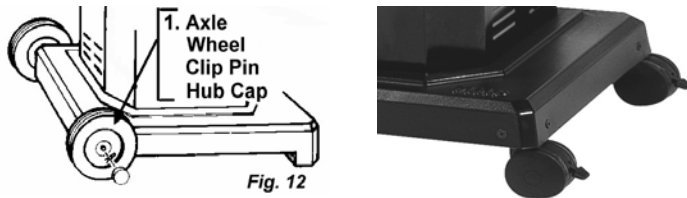

Fig. 12
OPTION: For Portable Base Only A-LC & A-NC: (Fig. 12)
1. Attach the wheels by slipping the axle through the base, slide the wheels on and secure with the axle clips. Finish by snapping the hubcaps on before standing unit upright. For units with casters, place caster stem into stem opening of the portable base, press and snap into place. (Fig. 12)